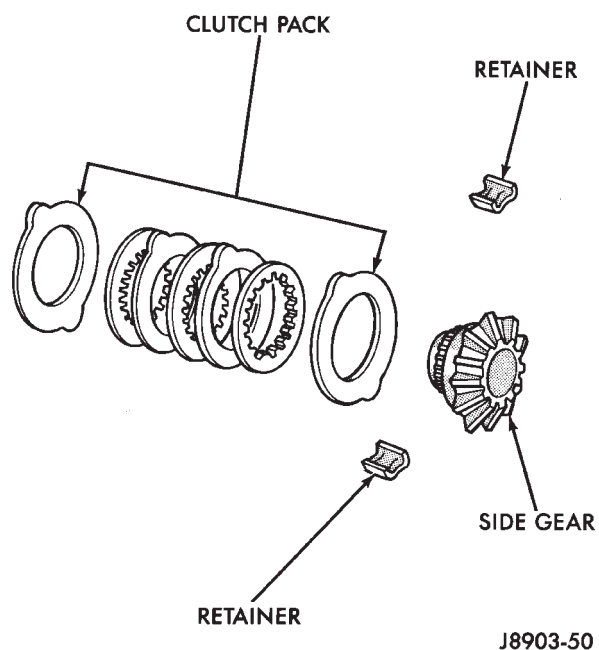

Fig. 49 Clutch Disc Pack
(1) Assemble the clutch discs into packs and secure disc packs with retaining clips (Fig. 49).